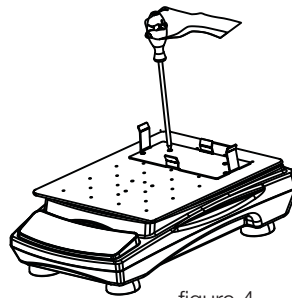

figure 4
1. Place the test tube rack holder at the corresponding position on the aluminum platform and fasten the 4 sunk screws as shown in the figure 4.